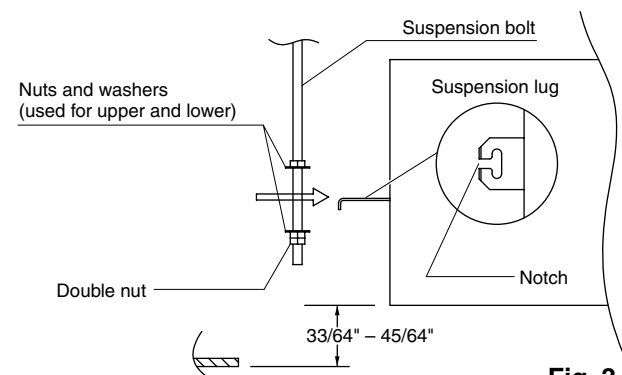

Fig. 3-32
- (3) Thread the 3 hexagonal nuts and 2 washers (field supply) onto each of the 4 suspension bolts as shown in the diagram. Use 1 nut and 1 washer for the upper side, and 2 nuts and 1 washer for the lower side, so that the unit will not fall off the suspension lugs. (Fig. 3-32)
- (4) Adjust so that the distance between the unit and the ceiling bottom is $33/64$ " to $45/64$ ". Tighten the nuts on the upper side and lower side of the suspension lug. (Fig. 3-32)
- (5) Remove the protective polyethylene used to protect the fan parts during transport.